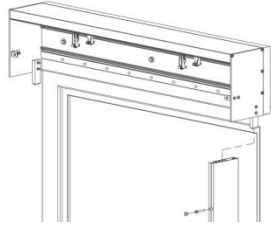

Fig. 18
7. Install guide rail to the underplaster cassette and fasten it to base or subconstruction – Fig. 18